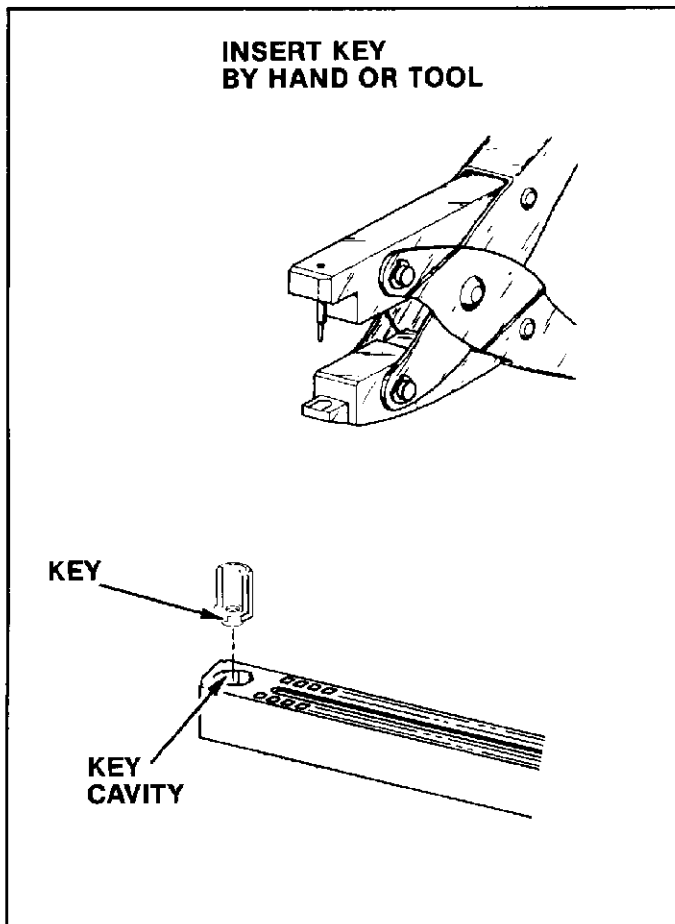

Fig. 2
Before proceeding, make certain that the pc board layout, keying pattern, receptacle connectors, and keying kits are compatible. Refer to Figures 2 and 3 and proceed as follows:
1. Orient key in proper keying position in octagonal hole in connector ear. Insert key by hand (in BROWN connectors), or with AMP Clinching Tool 91117-2 (in BLACK connectors). Refer to Figure 2.